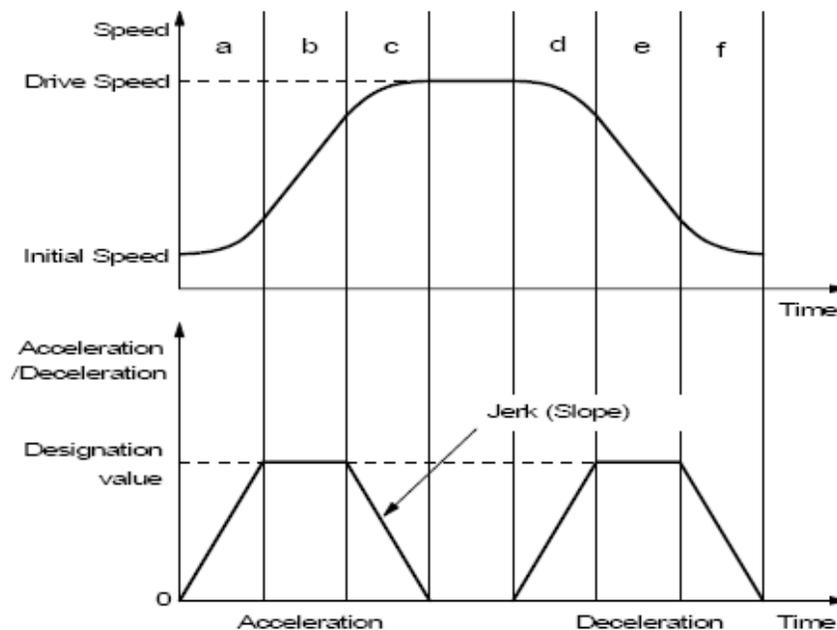

Fig. 5.7 S-Curve Acceleration/Deceleration Driving
This card creates an S curve by increasing/reducing acceleration/decelerations in a primary line at acceleration and deceleration of drive speed. Figure 5.7 shows the operation of S-curve acceleration/deceleration. When driving starts, the acceleration increases on a straight line at the specified jerk (K). In this case, the speed data forms a secondary parabolic curve (section a). When acceleration reaches designation value (A), acceleration is maintained. In this case, the speed data forms an increase on a straight line (section b).